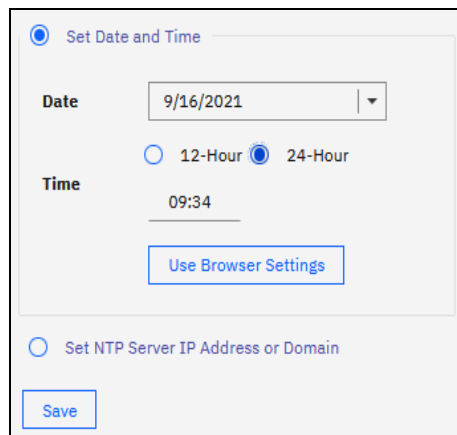

Figure 4-99 Set Date and Time window
- If you are not using a Network Time Protocol (NTP) server, select **Set Date and Time**, and then manually enter the date and time for your system, as shown in Figure 4-99. You can click **Use Browser Settings** to automatically adjust the date and time of your system with your local workstation date and time.